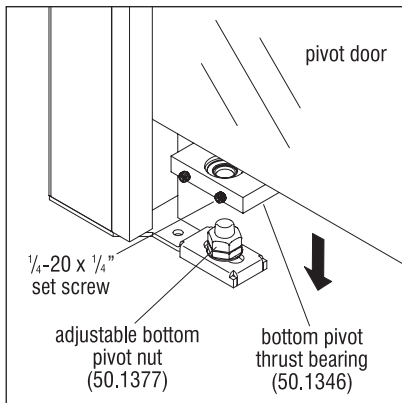

Figure 1 - Install Door to Pivot Nut
20. With the assistance of a second person, install the door assembly onto the adjustable bottom pivot (Figure 1).
21. Insert the spring (38.45.6000) and top pivot (38.13.2150) into the upper pivot housing (90.2407.BL). Using the supplied tool, compress the spring-loaded pivot down and move the door into position, then release the spring-loaded pivot into the upper pivot bushing (Figure 1).
22. Check the door for proper height and lock engagement. Adjust the height of the door as needed by turning the adjustable bottom pivot (Figure 1).